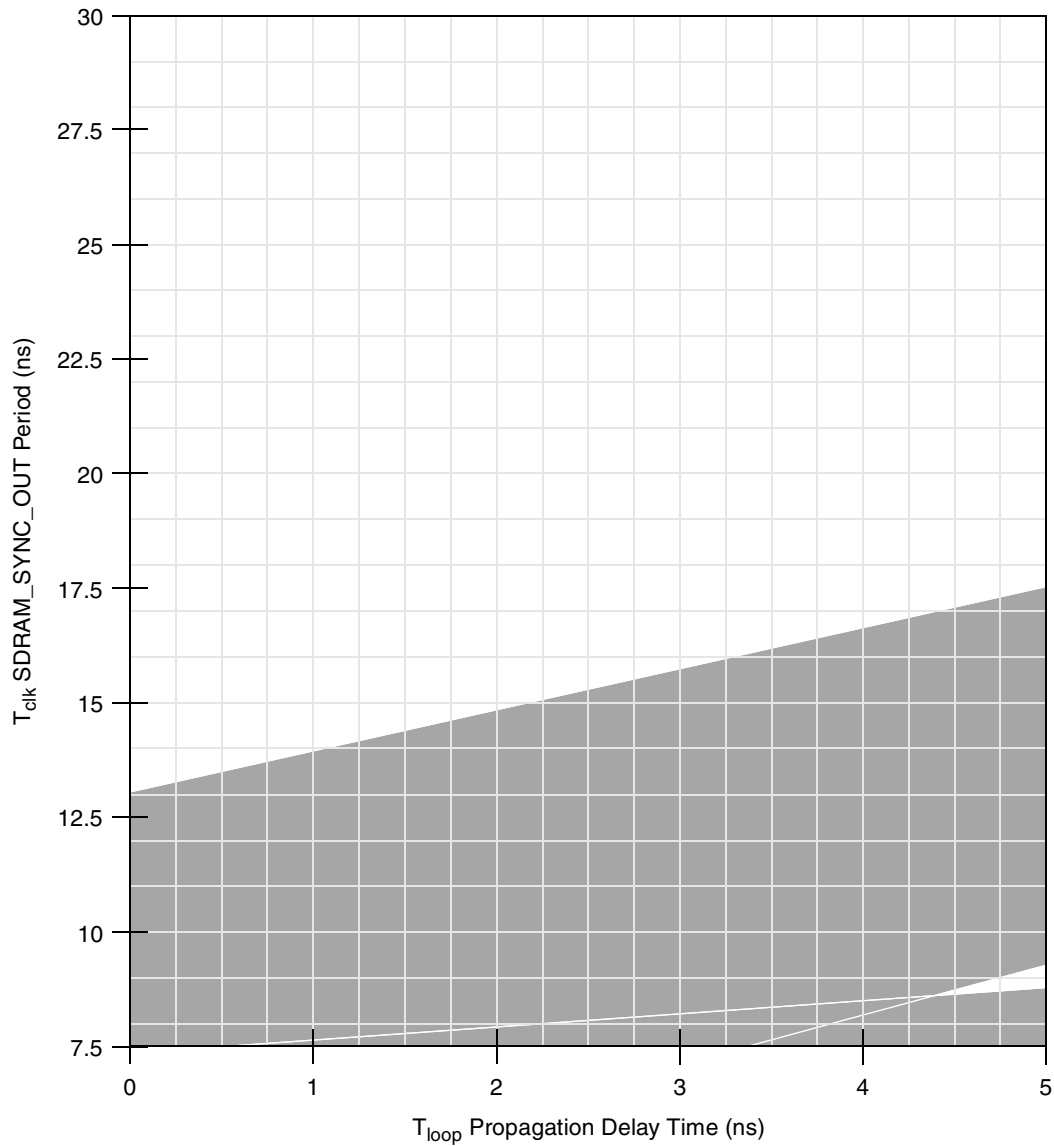
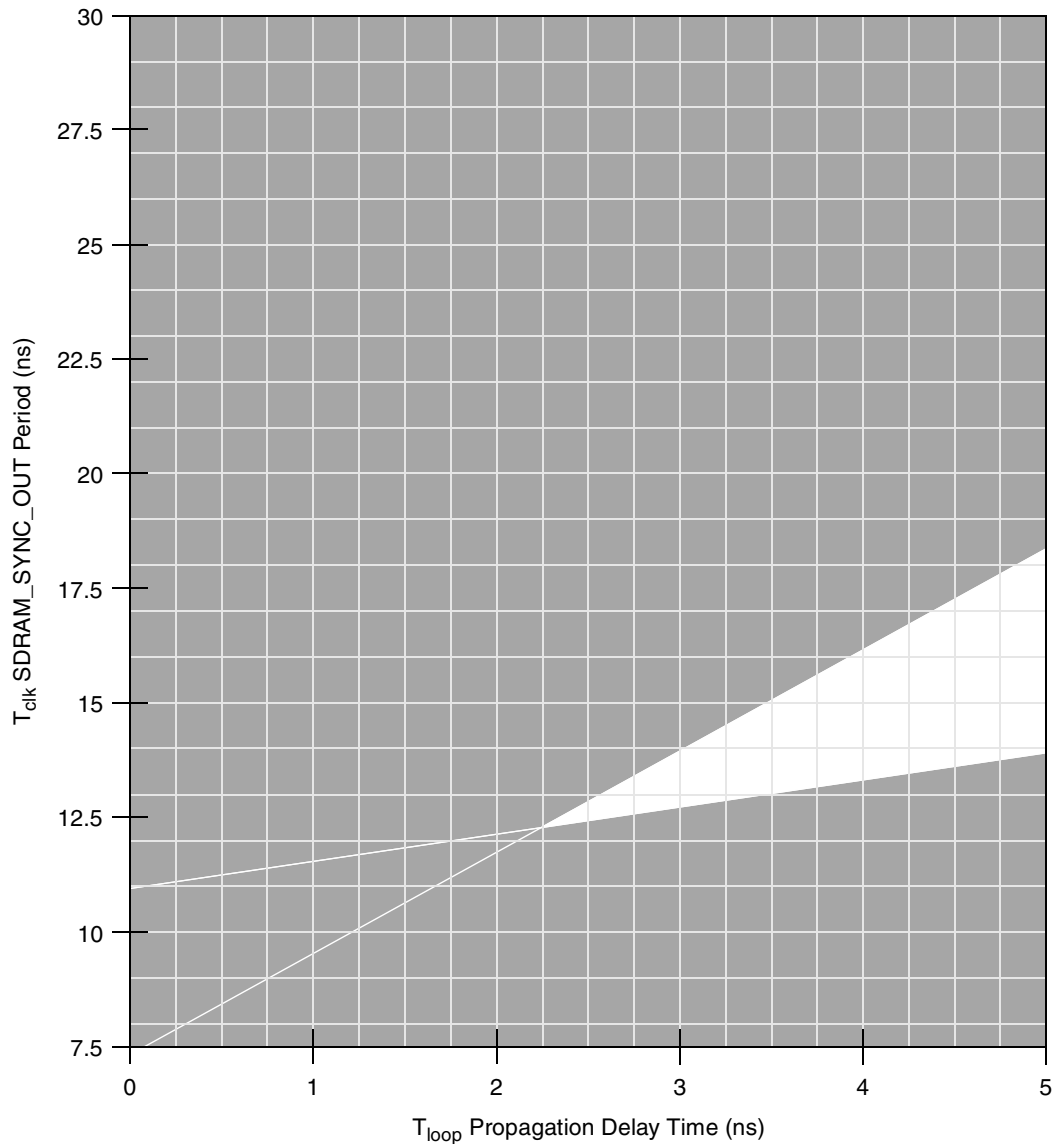

Figure 7. DLL Locking Range Loop Delay versus Frequency of Operation for DLL\_Extend=0 and Normal Tap Delay
Figure 10. DLL Locking Range Loop Delay versus Frequency of Operation for DLL\_Extend=1 and Max Tap Delay
- DLL\_EXTEND is bit 7 of the PMC2 register <72>. *N* is a non-zero integer (see Figure 7 through Figure 10).  $T_{clk}$  is the period of one SDRAM\_SYNC\_OUT clock cycle in ns.  $T_{loop}$  is the propagation delay of the DLL synchronization feedback loop (PC board runner) from SDRAM\_SYNC\_OUT to SDRAM\_SYNC\_IN in ns; 6.25 inches of loop length (unloaded PC board runner) corresponds to approximately 1 ns of delay. For details about how Figure 7 through Figure 10 may be used, refer to the Freescale application note AN2164, *MPC8245/MPC8241 Memory Clock Design Guidelines*, for details on MPC8241 memory clock design.
Figure 6 shows the PCI\_SYNC\_IN input clock timing diagram, and Figure 7 through Figure 10 show the DLL locking range loop delay versus frequency of operation.